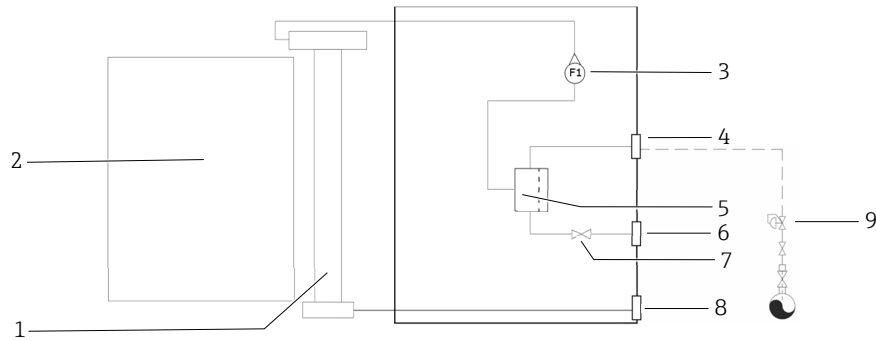

Figure 17: Shutting of sample supply shut-off valve
1. Close the sample supply shut-off valve. Refer to Figure 17.